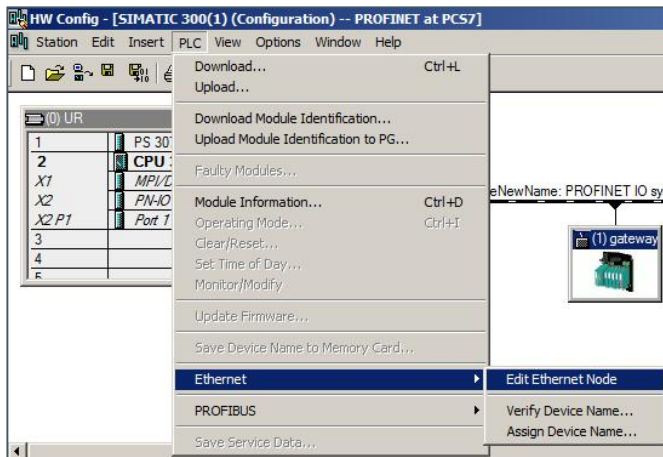

Figure 67: Search for Edit Ethernet Node
- 2) Select **PLC > Ethernet > Edit Ethernet Node** (see: Figure 67: Search for Edit Ethernet Node).